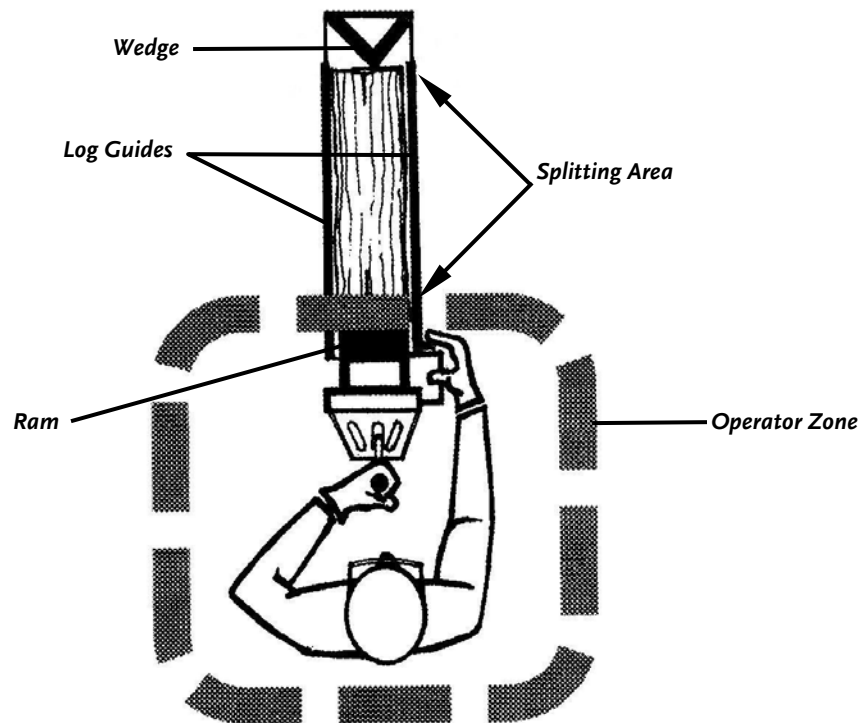

Figure 8
- DO NOT PUT ANY PART OF YOUR BODY WITHIN THE SPLITTING AREA. USE A STICK IF YOU NEED TO REMOVE DEBRIS FROM THE SPLITTING AREA (FIGURE 8).